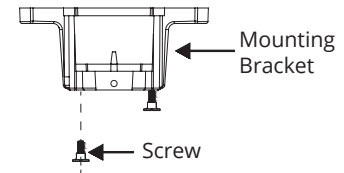

FIG. 6
2. Remove 1 of 2 screws from the bottom of mounting bracket and save for use in section 9. Loosen the other screw (FIG. 6).